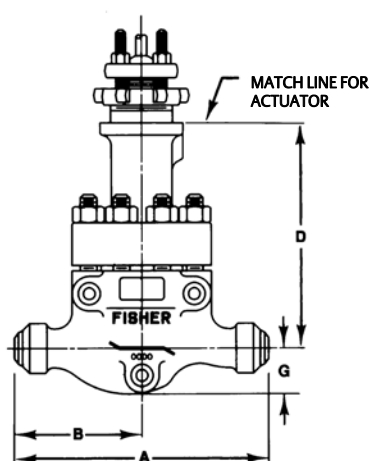

Figure 13. Globe Valve Dimensions with Standard Bonnet (also see tables 14, 15, and 16)
**Table 18. Dimensions D for Style 1 Extension Bonnet (A, B, and G Dimensions Listed in Figure 13 Do Not Change When Extension Bonnet is Used)**
**Figure 14. Dimensions D for Style 1 Extension Bonnet (A, B, and G Dimensions Listed in Figure 13 Do Not Change When Extension Bonnet is Used) (also see tables 17 and 18)**